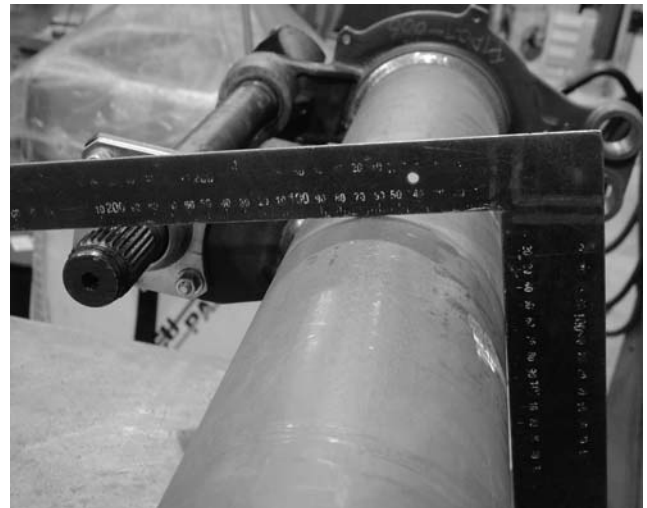

Figure 7. Framing square helps position air chamber bracket
3. Place a framing square on the axle contacting the camshaft splines as shown in figures 7 and 8.